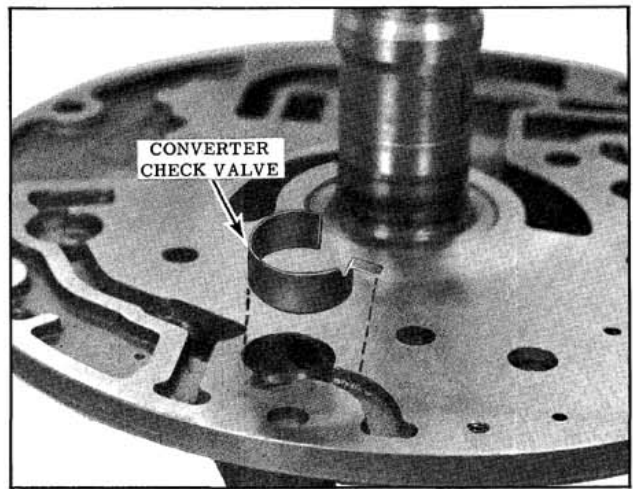

Fig. 6-122 Check Valve Installation
11. Install the check valve. (Fig. 6-122)